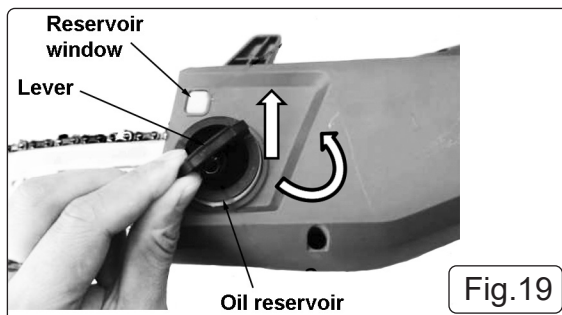

Fig.19
- 7.1.1. To fill or top up the oil reservoir, lay the chainsaw body onto it's side, lift up the lever on the reservoir cap and turn counter clockwise and fully remove the cap (fig 19).